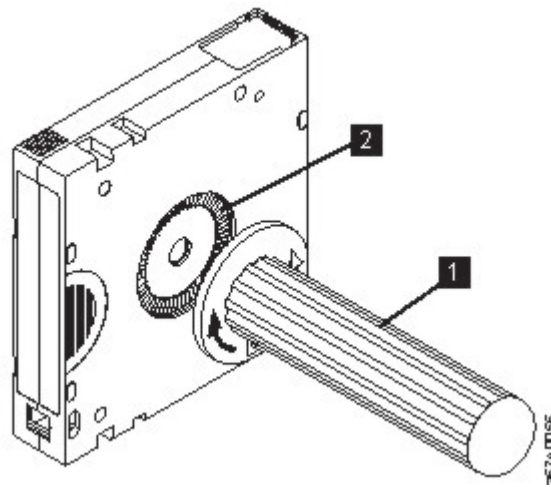

Figure 104. Rewinding the tape into the cartridge
5. To rewind the tape, insert the cartridge manual rewind tool (1 in Figure 104 on page 235) into the cartridge's hub (2) and turn it clockwise until the tape becomes taut.